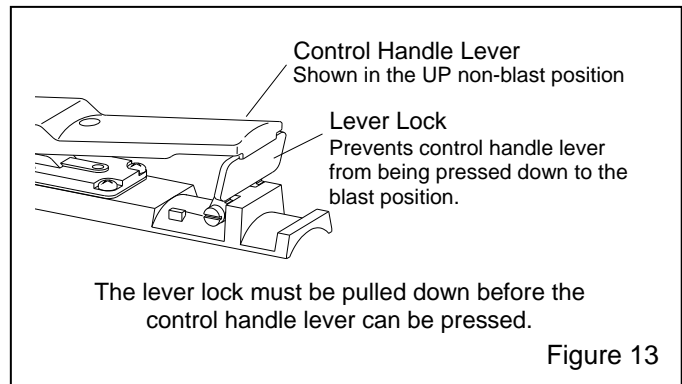

Figure 13
4.1.1.5 Make sure the control handle lever is in the up (no blast) position, as shown in Figure 13, and that the handle lever and safety lever lock move freely.